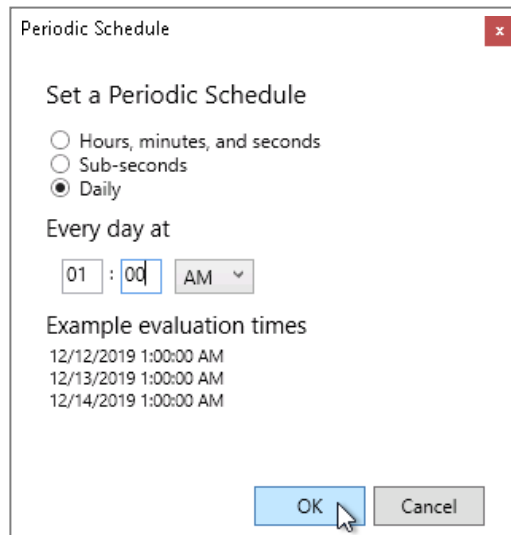

Figure 22. Periodic Schedule tab
Step 4. Click on the **Configure** button and choose **Daily** (Figure 22).